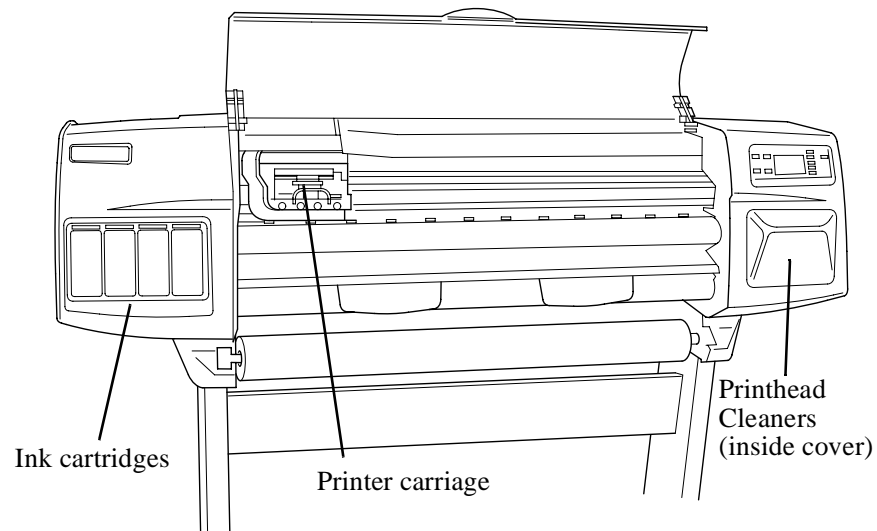
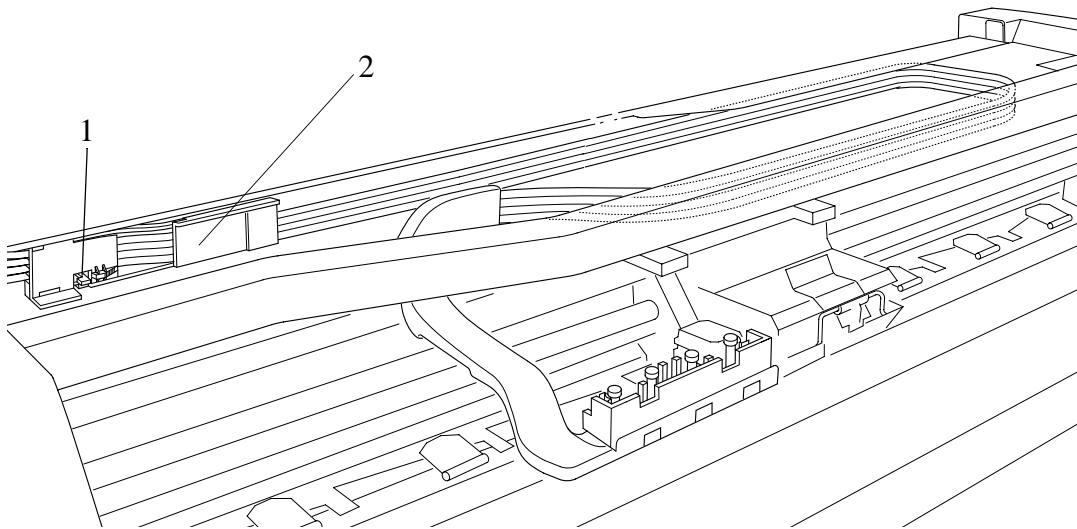

Figure 52: Printer Carriage Location
Figure 63: Tube Retaining Clip
Refer to Figure 52 to Figure 63.
14. Push the tab (item 1) towards you and then push the complete tube retaining clip (item 2) to the right and then pull towards you (refer to Figure 63)